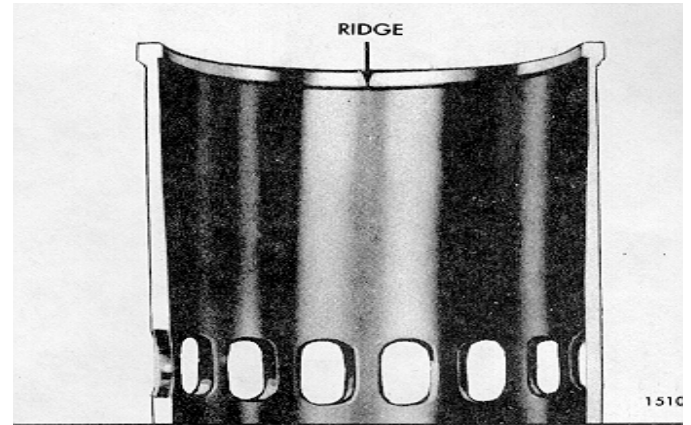

Fig. 10 - Cylinder Liner Ridge Due to Wear
2. To remove the ridge (Fig. 10) formed at the top by the piston ring travel.